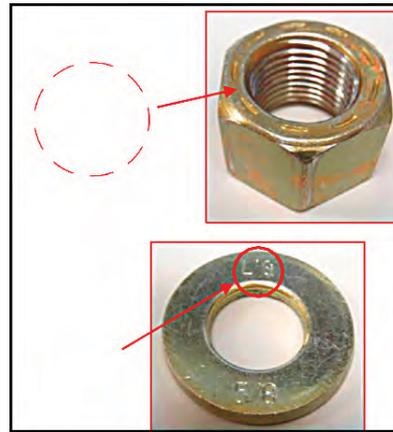

Figure 6 – Nut And Washer Identification
- Verify nut is L9 by ensuring it has 9 marks on one side (See Figure 6)
- Verify washer is L9 by ensuring it has "L9" stamped on one side (see Figure 6)